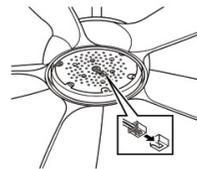

FIG. 14
4. Plug together light kit wires from fan to LED light kit. (see Fig. 14)